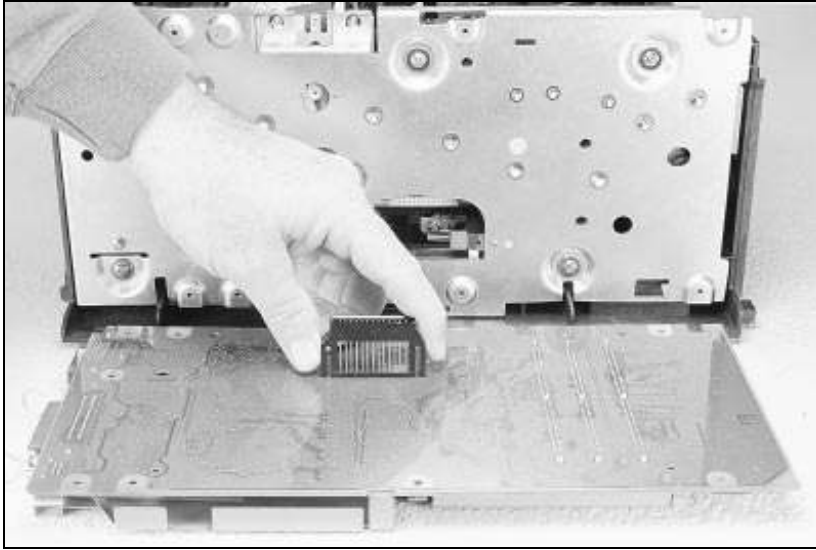

Figure 26 Removing the DC Controller Interconnect.
4. Pull the DC controller interconnect out (Figure 26).
8. Disconnect Tray 1 Interconnect PCA (callout **2** in Figure 26) and cable 302 (callout **1** in Figure 29) from the DC Controller PCA.